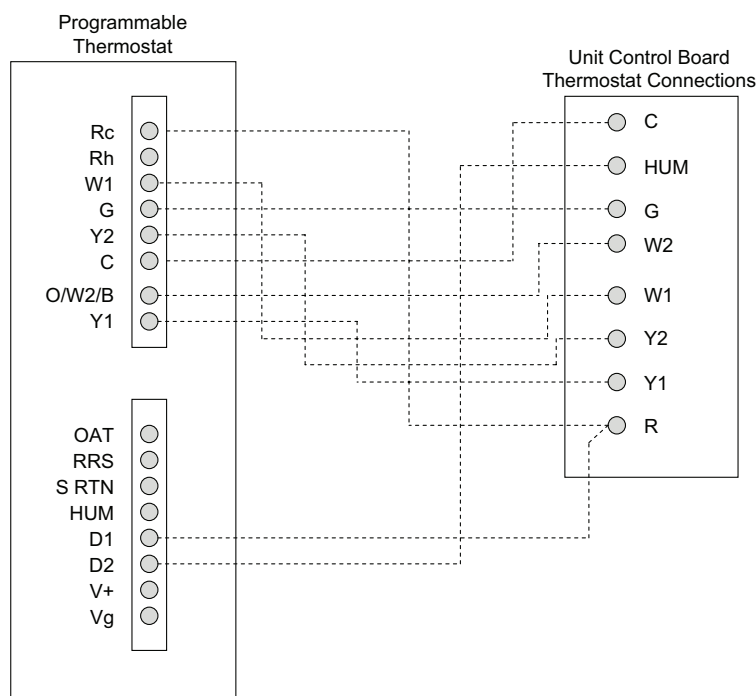

Fig. 41 — Typical 48GC07-12 Unit with Humidi-MiZer Adaptive Dehumidification System and Edge® Pro Thermidistat Device**
3. The Thermidistat has dry contacts at terminals D1 and D2 for dehumidification operation (see Fig. 41). Connect D1 to the R terminal on the UCB. Connect D2 to the HUM terminal on the UCB. Refer to the installation instructions included with the Carrier Edge® Pro Thermidistat device for more information.